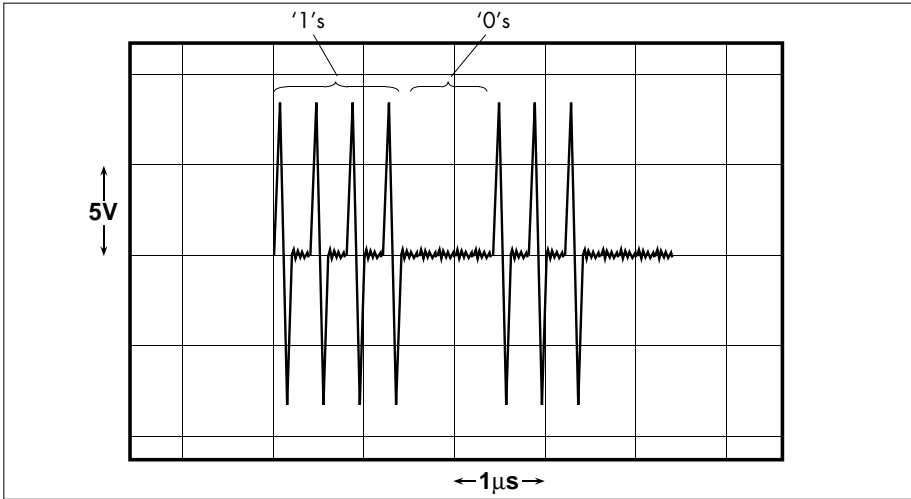
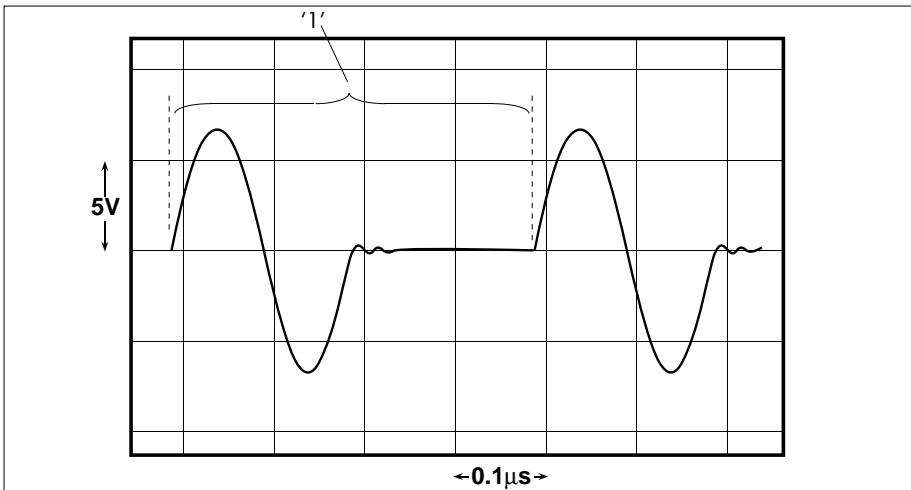

Figure 4-8 ALIN signal – detail of single node showing '1's and '0's
Figure 4-9 ALIN signal – detail of individual '1' dipulse
- Figure 4-8 shows one of the blocks from a single node in more detail — the structure of the '1' and '0' signals is visible. Figure 4-9 shows an individual '1' ALIN signal. Verify that the dipulses start with *rising* edges, as shown in the figures. (The connections to the hub or ALIN cable should be made exactly as described here for this test, i.e. you must be measuring the B minus A signal.) If your signals do not start with a rising edge it may indicate a crossed A-B connection somewhere.